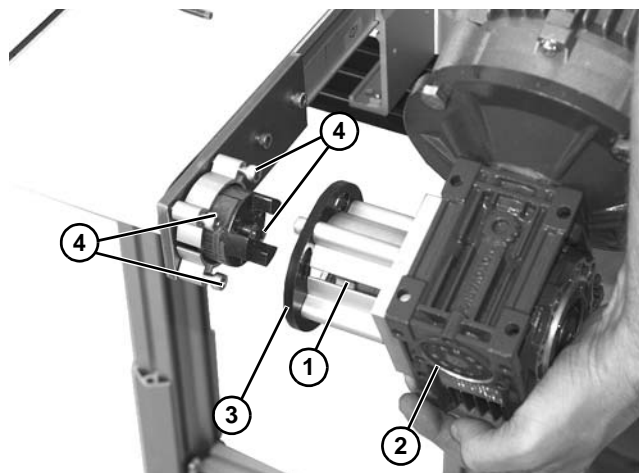

Figure 7
8. Install spider bushing (Figure 7, item 1) in mating female portion of three jaw coupling on gearmotor assembly (Figure 7, item 2).
9. Slide and pivot gearmotor and gearmotor mounting ring (Figure 7, item 3) onto four M6x30 mounting screws (Figure 7, item 4) (through slots in gearmotor bracket).